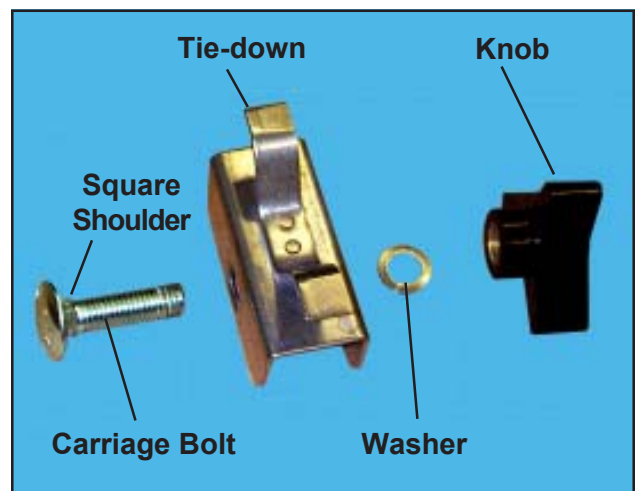

Figure 14. Tie-down Assembly Parts
2. Slide the carriage bolt down through the two square holes in the tie-down. Make sure that the square shoulder of the carriage bolt head (Figure 14) seats into the upper hole.